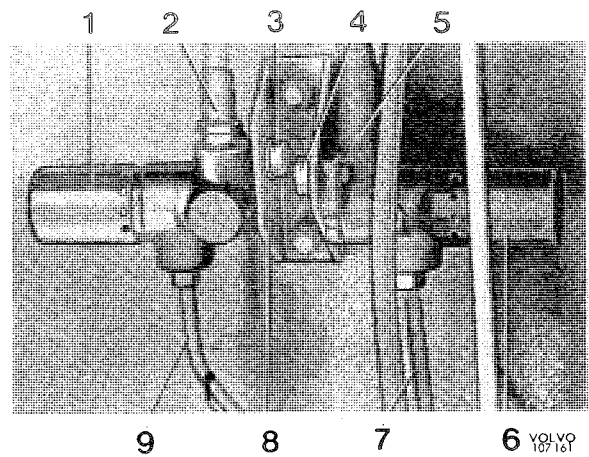
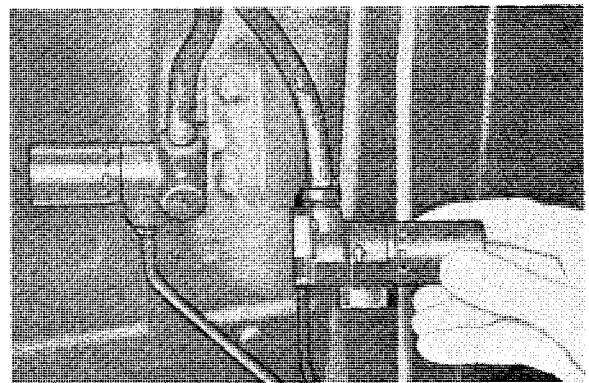

Fig. 5-57. Brake valves installed
Fig. 5-58. Removing brake valve
Unscrew the brake valve and plug the brake pipe connection (10, Fig. 5-57). Slacken the brake hose (4) a max. 1/4 turn at the valve. Remove the attaching screw and unscrew the valve from the brake hose, see Fig. 5-58. Screw the new brake valve on to the brake hose with new packing, compare Fig. 5-58. Place the valve in position and check that there is no tension in the hose. Fit the attaching screws and connect up the brake pipe. Tighten the connections. Bleed the brake system.